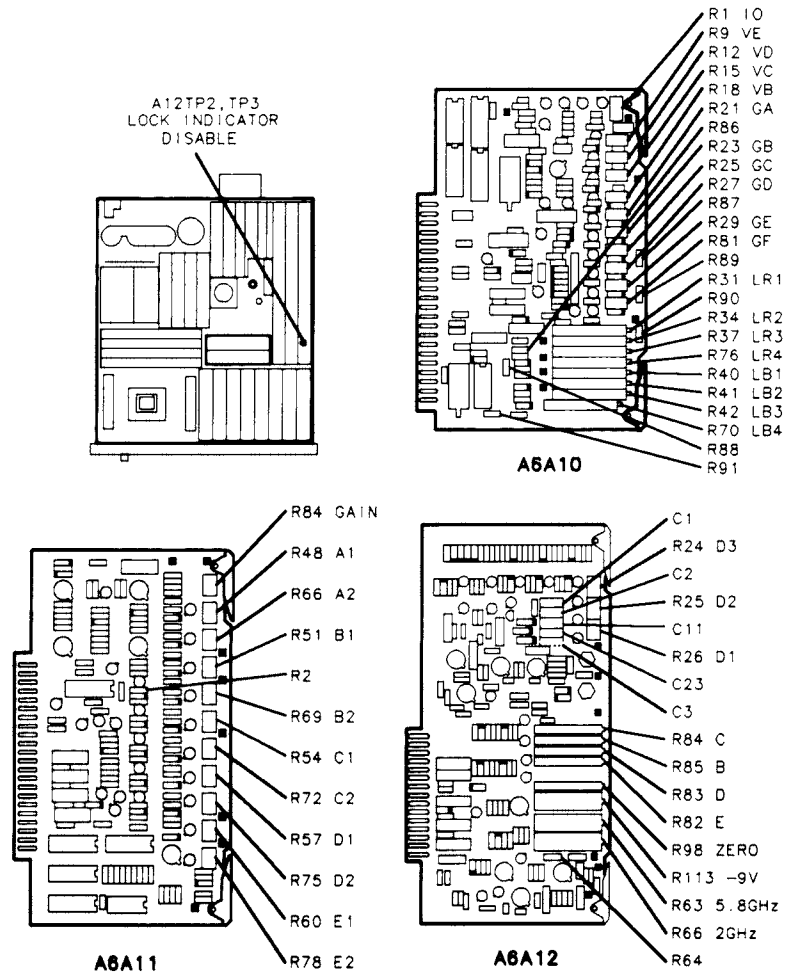

Figure 3-90. Location of Frequency Response Adjustments
2. Connect a jumper between A12TP2 to A12TP3 (LOCK INDICATOR DISABLE) on the A12 Front Panel Interface Assembly in the RF Section. See Figure 3-90 for the location of A12TP2 and A12TP3.
3. In the RF Section, disconnect cable 84 (gray/yellow) from A6A12J1 and cable 82 (gray/red) from A6A12J2. Remove the cover from the A6 RF Module, and then reconnect cable 84 (gray/yellow) to A6A12J1 and cable 82 (gray/red) to A6A12J2. See Figure 3-90 for the location of the A6A12 YTX Driver Assembly and the A6 RF Module.
10. Disconnect cable 81 (gray/brown) W1 from A6A3J3 (21.4 MHz OUT) on the A6A3 Last Converter Assembly. Disconnect the power sensor from the low-loss microwave test cable, and connect the test cable to cable 81 (gray/brown) W1 using an SMB (m) to SMA (f) adapter. See Figure 3-90 for the location of A6A3J3 (21.4 MHz OUT).
13. Connect the DVM to A6A10TP1, and connect the DVM ground to A6A10TP2. See Figure 3-90 for the location of A6A10TP1 and A6A10TP2.
14. Adjust A6A10R1 IO (3.3 GHz Oscillator Drive, to IE on A6A4 Second Converter) for a DVM indication of $-0.15 \pm 0.01 \text{ Vdc}$. See Figure 3-90 for the location of A6A10R1.
15. Connect the DVM to A6A12TP3 (-9 V), and connect the DVM ground to A6A12TP2 (YTX COM) in the RF Section. See Figure 3-90 for the location of A6A12TP3 and A6A12TP2.
16. Adjust 17-turn potentiometer A6A12R113 -9 V for a DVM indication of -9.000 ± 0.001 Vdc. See Figure 3-90 for the location of A6A12R113.
19. Adjust 25-turn potentiometer A6A12R98 ZERO for a DVM indication of 0.000 ± 0.001 Vdc. See Figure 3-90 for the location of A6A12R98.
Then, adjust A6A11R84 GAIN fully clockwise for maximum RF gain. See Figure 3-90 for the locations of A6A11R48 A1, A6A11R66 A2, and A6A11R84 GAIN.
If necessary, change the value of factory-select component A6A10R2 to shift the Band A frequency breakpoint determining the adjustment ranges of A6A11R48 A1 and A6A11R66 A2. A decrease in the value of A6A10R2 shifts the Band A frequency breakpoint higher in frequency, widening the Band A Lower Segment and narrowing the Band A Upper Segment. Conversely, an increase in the value of A6A10R2 shifts the Band A frequency breakpoint lower in frequency. See Table 3-3 for the acceptable range of values for A6A10R2, and Table 3-4 for HP part numbers. See Figure 3-90 for the location of A6A10R2.